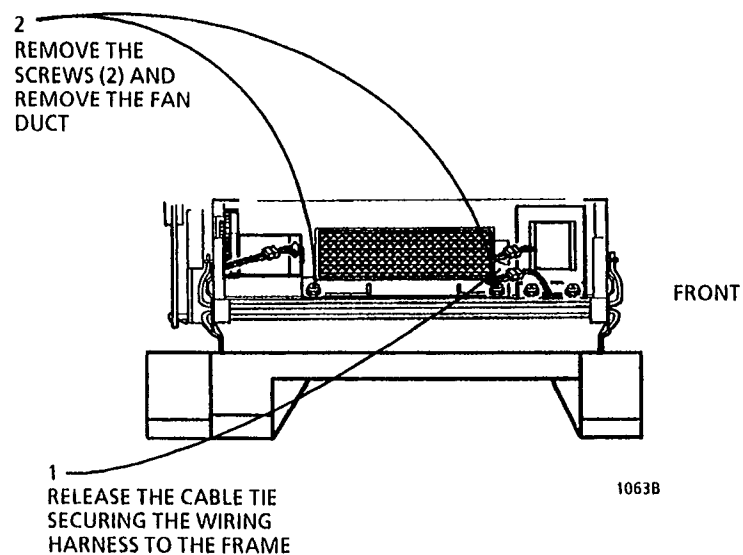

Figure 1. Removing the Fuser Fan Motor (MOT6)
3. (Figure 1): Remove the fuser fan duct.